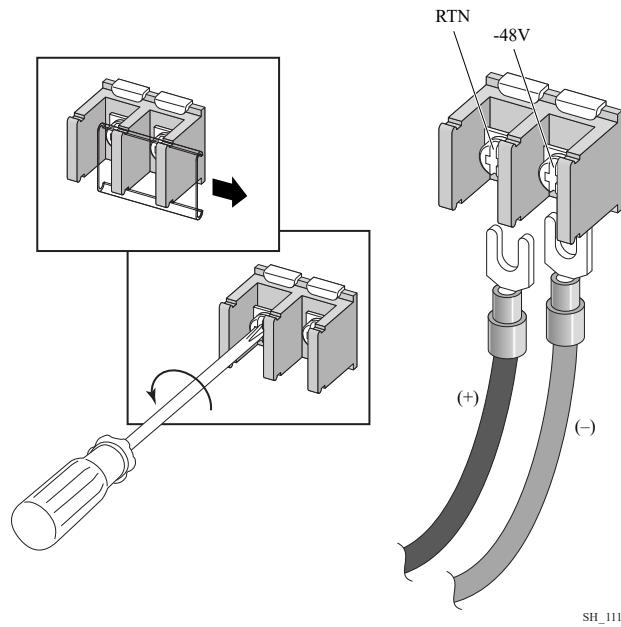

Figure 281: Connecting the DC Power Cables (Part 1)
2. Slide the cover off the terminal block (see Figure 281 on page 347).